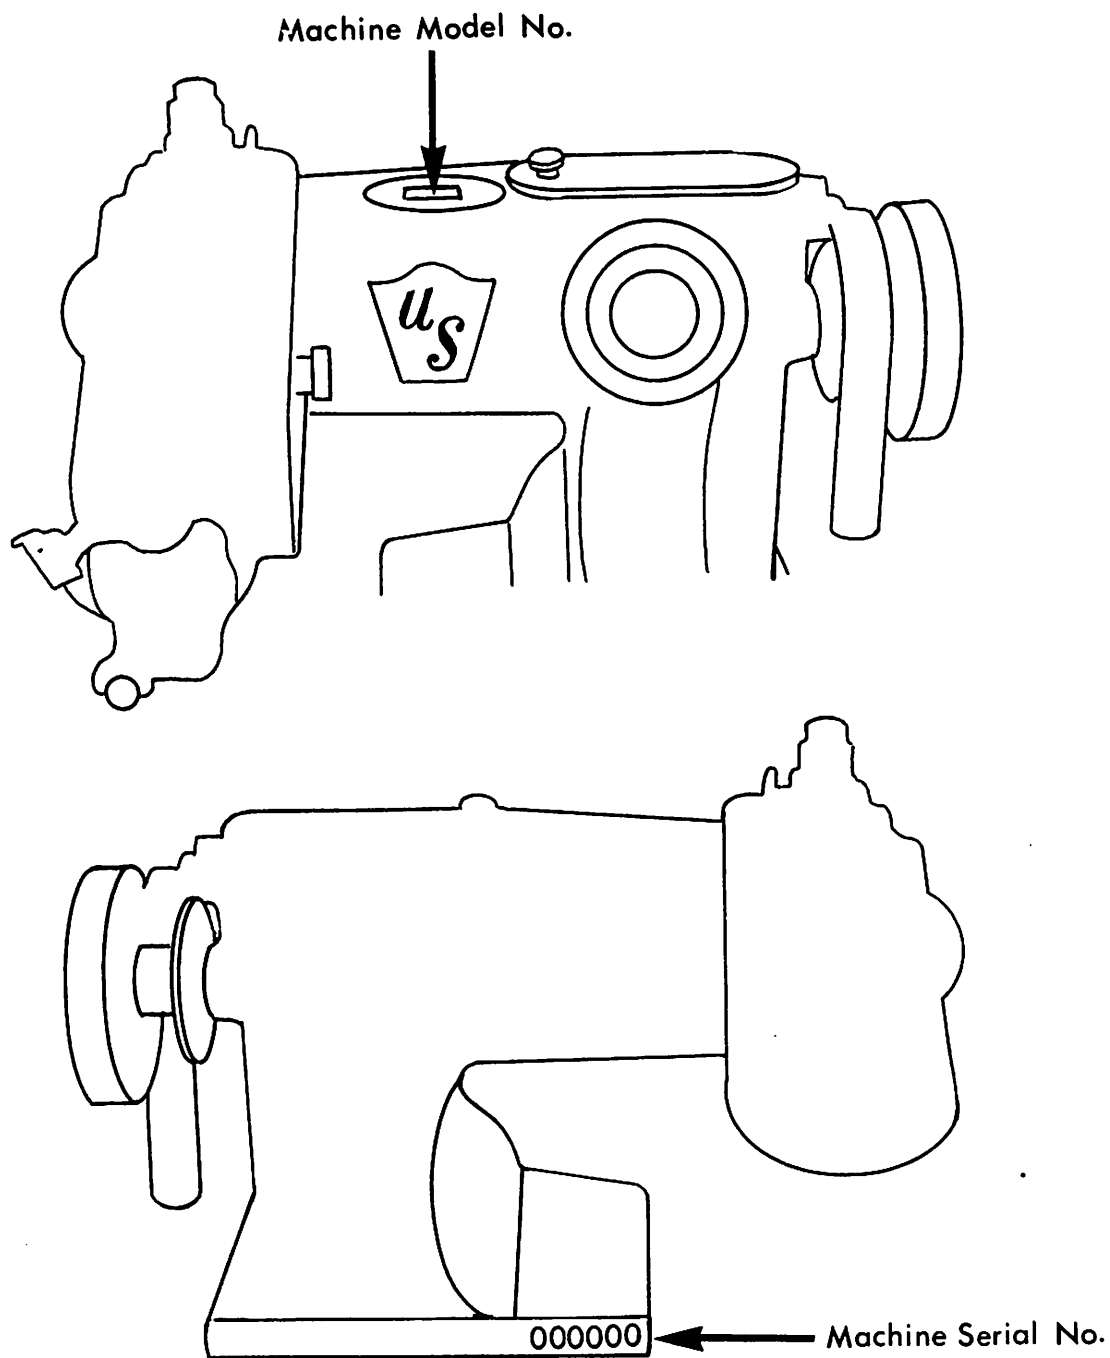

FIGURE 11
1. First, observe the model designation stamped on the nameplate located on top of the main frame (Refer to Figure 11). Make a note of the number.
2. Observe the particular machine serial number stamped on the bottom rear of the base casting (Refer to Figure 11). Note this number.
3. Select the catalogue for the model number noted in item (1). This model is clearly printed on the cover of the catalogue.